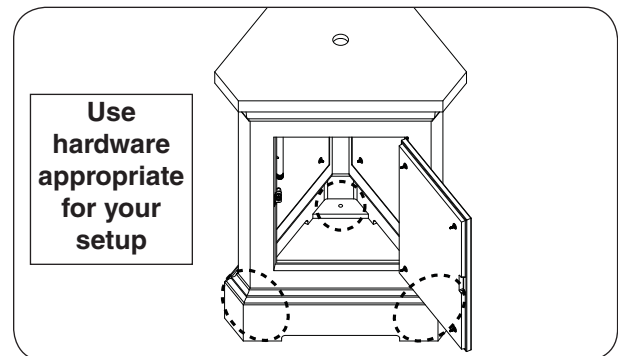

Fig. 27-2 Mount pedestal
2. Using appropriate mounting hardware for the floor material/construction, secure the pedestal into the floor. The interior of the base has three $1\frac{1}{2}$ " holes that will allow for the pedestal to be fastened to the floor. See Fig. 27-2.